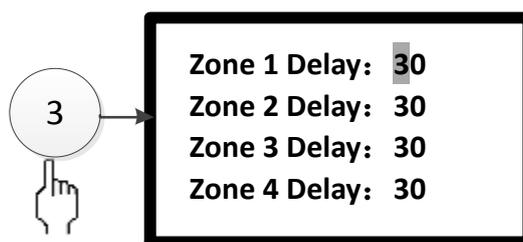

Fig. 3-29
③ Start Delay
Enter the screen as shown in Fig. 3-29 by pressing number 3 or moving cursor to select ③. Pressing Up and Down key selects zones. Pressing numbers enters delay time. Press "F1" to save the setup. Pressing ESC returns to the previous menu.